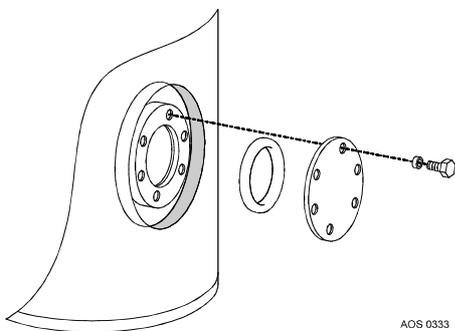

Figure 6: Inspection hatches.
4. Remove the access cover plates from the tank by unscrewing and removing the bolts and washers, (see figure 6);
5. To ensure watertightness of the access covers the rubber O-rings must be replaced when the access covers are refitted, (see figure 6).